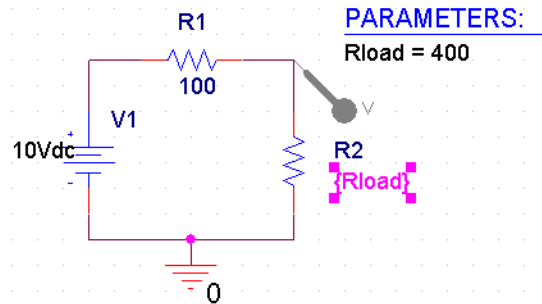

Figure 20: Potential divider with the value of R2 given by the parameter Rload. Don't forget the curly brackets!
- Change the value from 400 to {Rload}. This is the name of the parameter *in curly brackets*. Click OK. The schematic drawing should now resemble figure 20 on the following page.